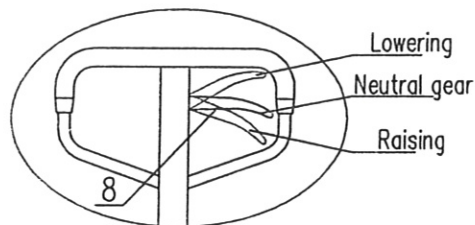

Fig.4
- 3.7 Try shaking Handle and operate Trigger (8) at different gears to see whether the truck works well at raising, neutral gear and lowering. See Fig. 4.